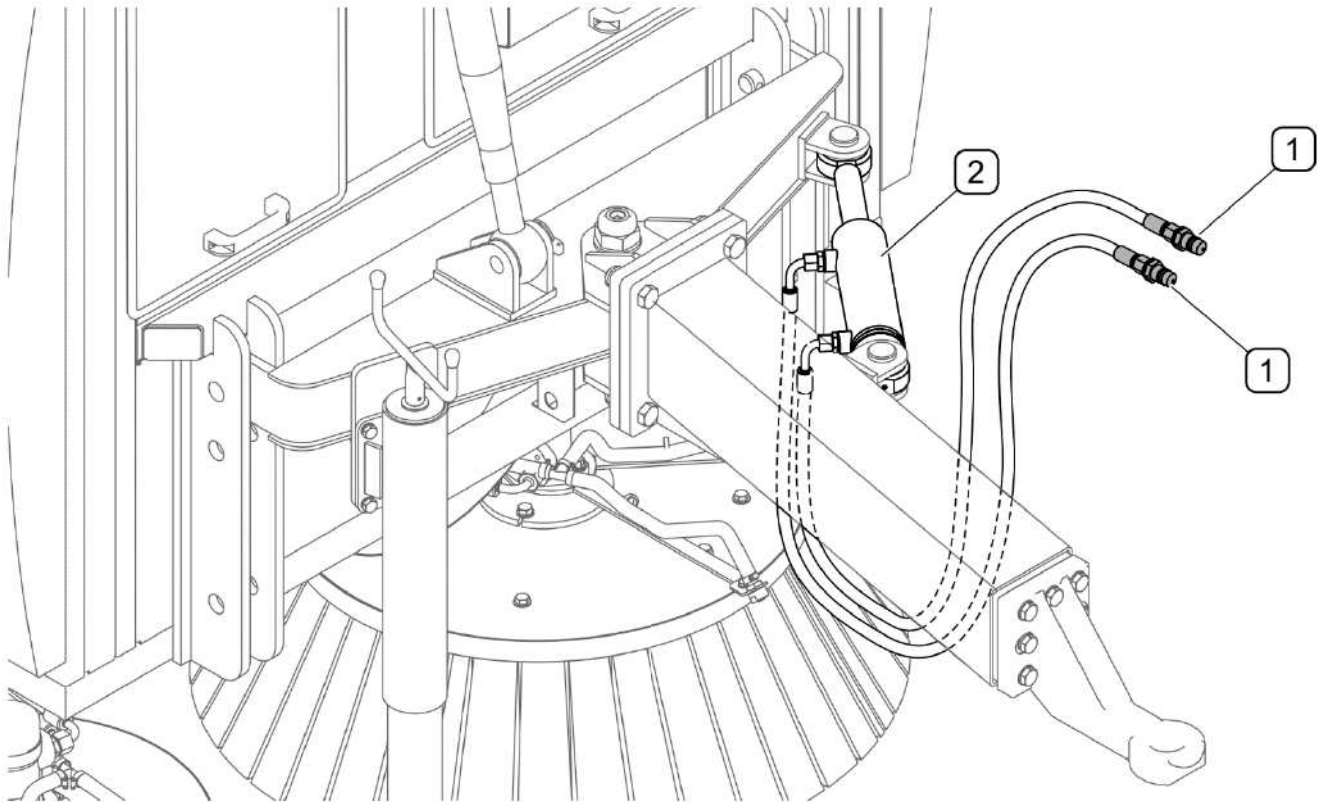

FIG. 4.3 Connecting hydraulic control system of tilting drawbar
Hydraulic connections (1) of tilting drawbar control system (FIG. 4.3) should be connected to the section of the tractor's external hydraulic system that makes it possible to change hydraulic oil flow direction.